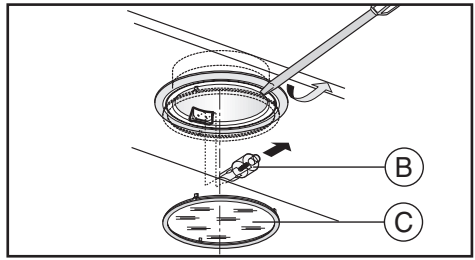

Fig.6A
• Replacing halogen light bulbs (Fig.6A):